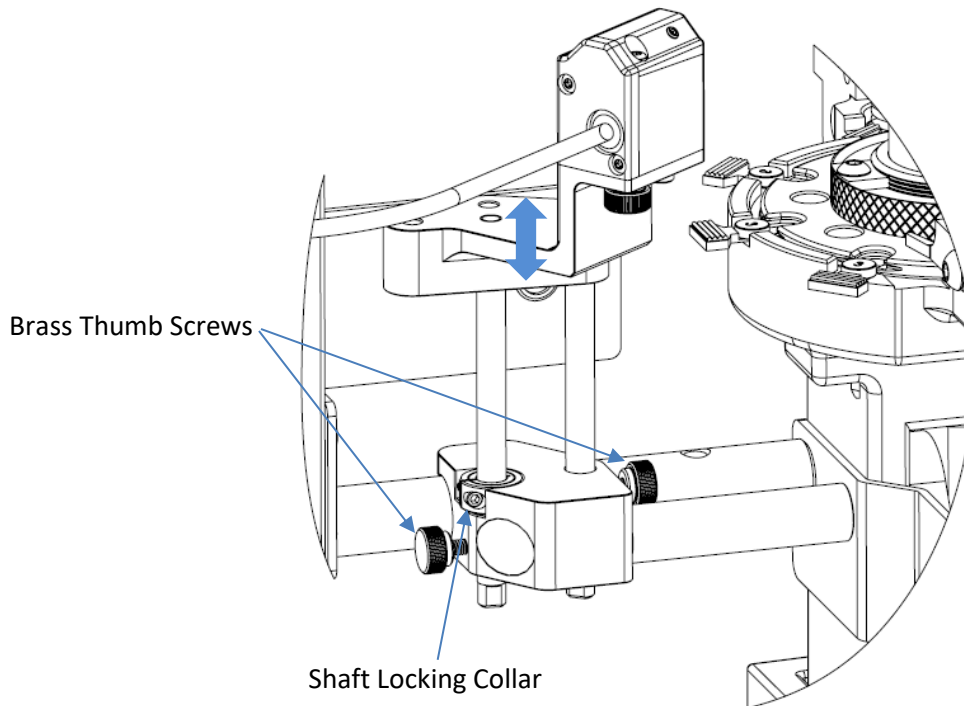
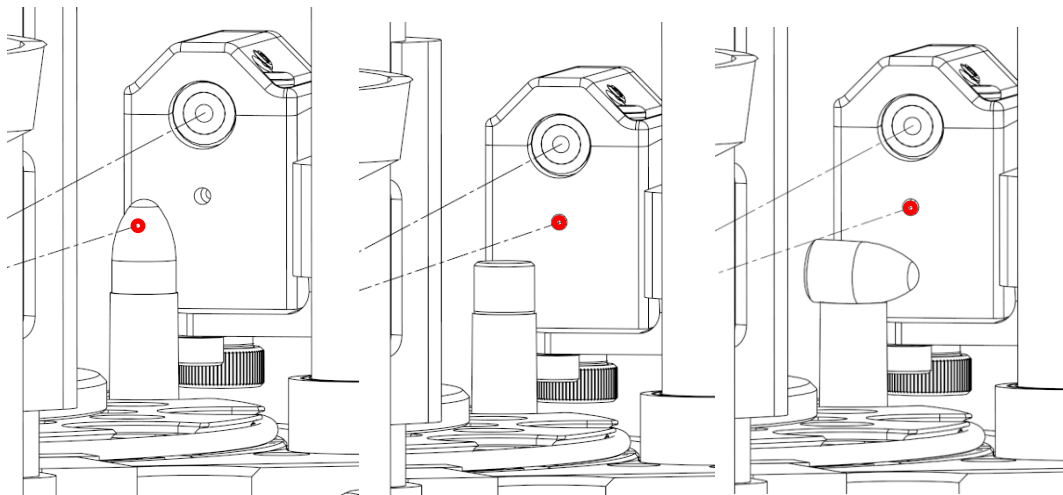

Figure 16: Direct beam over the tip of the bullet (left) the reflected beam will hit the back side of the bullet (Right)
Figure 17: Properly orientated Bullet- Beam interrupted (Left) Improper orientated Bullet – Beam not interrupted (Right)
11. Loosen the 2X brass thumb screws and shaft locking collar and gently position the upper mount, shown in Figure 16, so the laser beam goes OVER the tip of the bullet and hits the mirror. The reflected beam should return and hit the tip of the bullet, breaking the beam path, as shown in Figure 17. When the vertical height is adjusted properly a shadow will be cast on the sensor preventing the sensor to see the laser beam. When the bullet is not present, upside or sideways the beam will pass over the bullet and contact the sensor triggering the machine to stop.
12. Once the proper height has been achieved ensure the 2X brass set screws are tightened and tighten the shaft locking collar, see Figure 16. The shaft locking collar is used to lock in the required height adjustment. If you need to remove the BulletSense® assembly for press maintenance or for any reason you can choose to remove the upper mount only. When re-installing, the vertical position will be maintained.